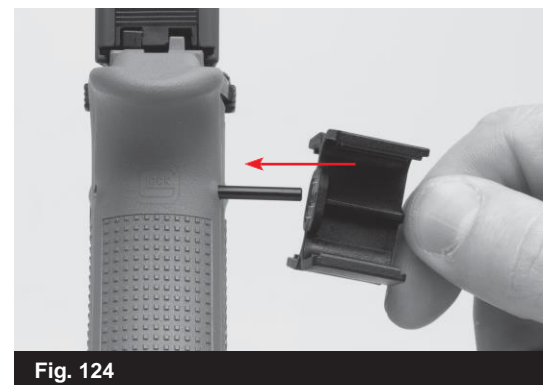

Fig. 124
- If you did not install a backstrap, install the short trigger housing pin by pushing it into the corresponding hole in the rear of the frame with the flat side of the multifunctional clip until it is completely centered in the frame. If you installed a backstrap, hold it in place against the frame while installing the long trigger housing pin (comes included in the multifunctional clip) by pushing it into the corresponding hole in the rear of the frame with the flat side of the multifunctional clip until it is completely centered in the frame. (Fig. 124)